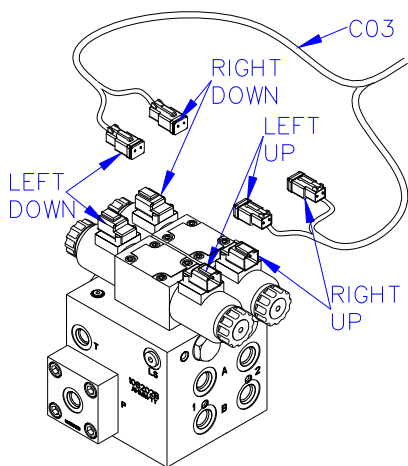

Figure 27: Valve Cable Connections
2. Connect the 2-pin connectors on the valve interface cable to the NORAC valve block, as shown in **Figure 27**.